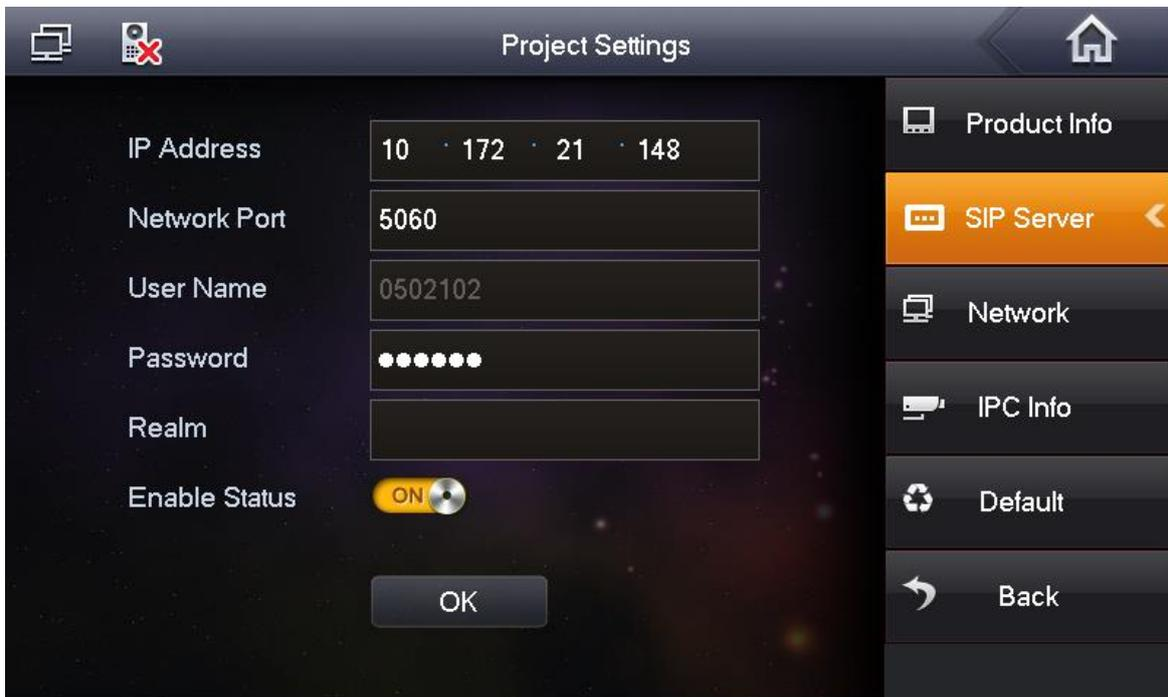

Figure 2-6
Step 1. Click SIP Server. See Figure 2-6.